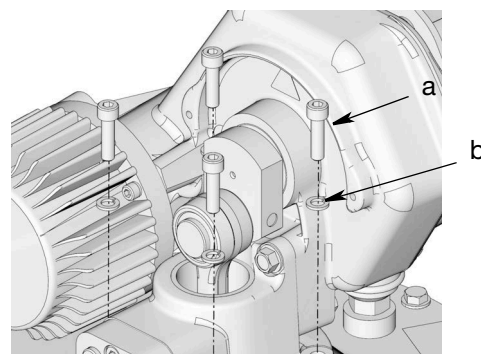

FIG. 8
- Align holes in the pump base with holes in the reservoir cover (FIG. 8). Securely fasten the pump to the reservoir cover using screws (a) and washers (b) removed in Step 1, page 8, torque to 28 +/- 3 ft-lb (37.96 N•m) (+/-4.1 N•m).